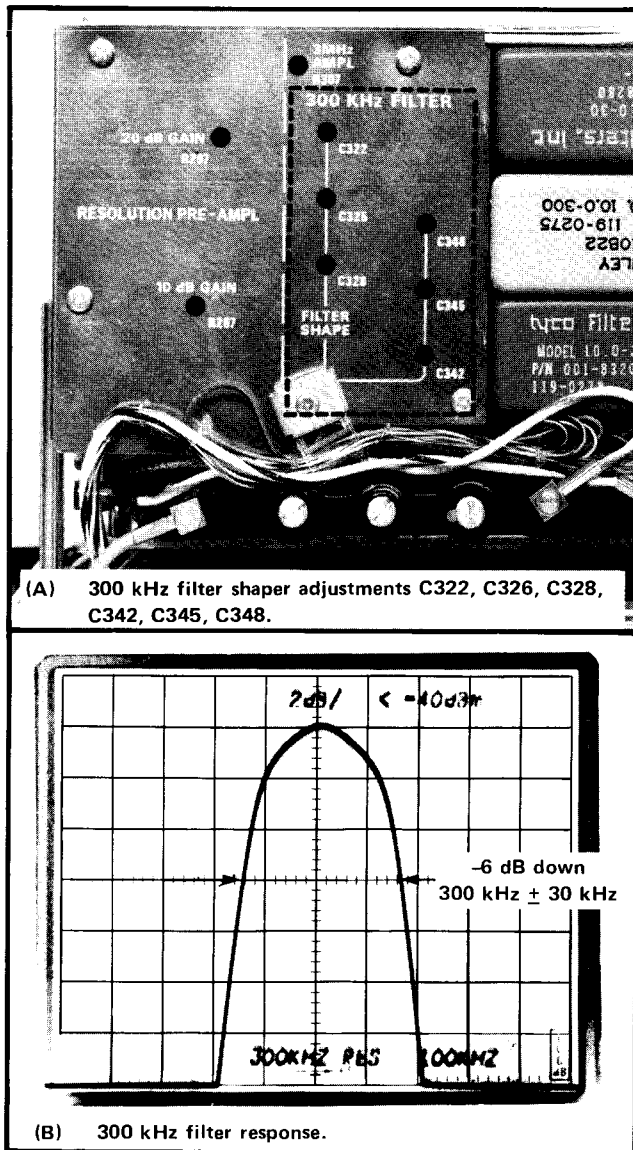

Fig. 4-17. 300 kHz Filter adjustments and typical response characteristics.
*If the response is similar to the illustration of Fig. 4-17, try tweaking each capacitor a slight amount. If the response is not centered or is asymmetrical, adjust the capacitors to center and peak the amplitude of the response, then adjust each filter until the response is symmetrical and  $300\text{ kHz} \pm 10\%$  wide. (The input and output resonators usually affect the centering and bandwidth of the display and the center resonators the display slope.)*